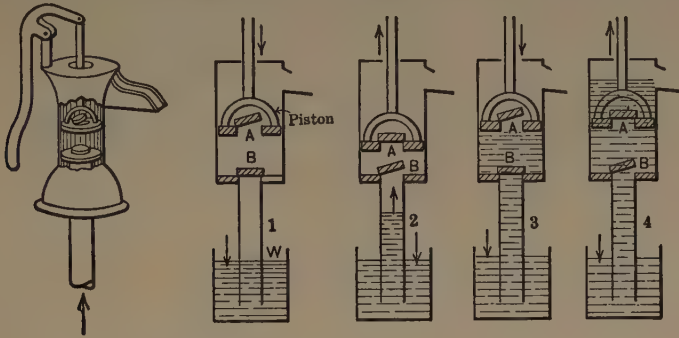

FIG. 312.—Action of the lift pump.
**The lift pump.** The most common pump is known as the *lift* or *suction pump*. Its operation depends upon the pressure of the atmosphere. A pipe extends from the cylinder of the pump into the water in the well, Fig. 312. At the top of the pipe, where it joins the cylinder, there is a valve, *B*, opening upward. Inside the cylinder is a tight-fitting piston with a valve, *A*, also opening upward. On the *down stroke* of the piston, the air between the two valves is compressed and opens valve *A* to escape. On the *up stroke* of the piston the overlying air holds valve *A* tightly closed. The rising piston increases the space